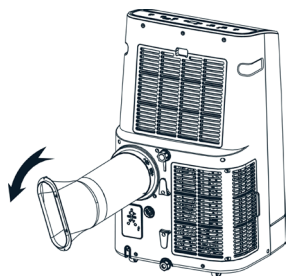

Figure 1
- **Install the heat pipe assembly (as shown in Figure 1) :** screw the heat pipe assembly (exhaust fitting end) into the exhaust port on the rear panel (counterclockwise).